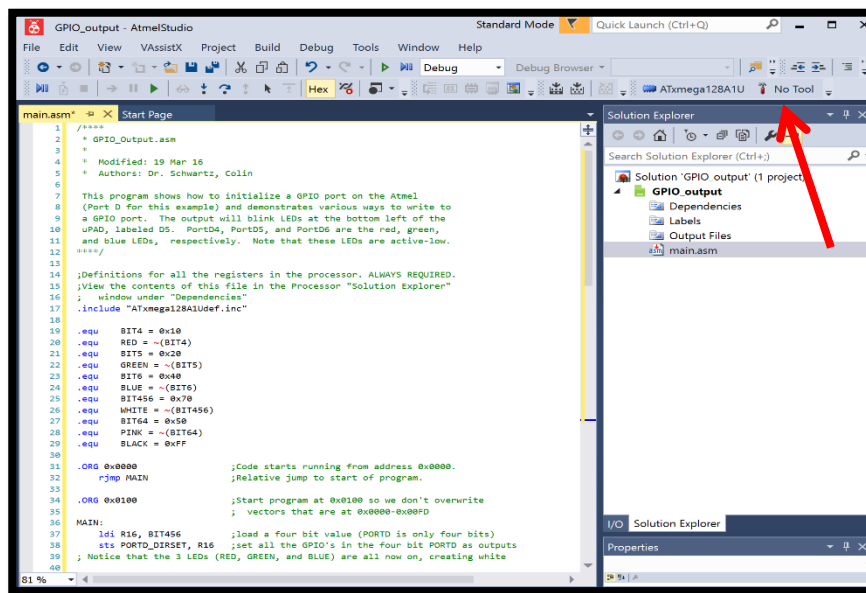
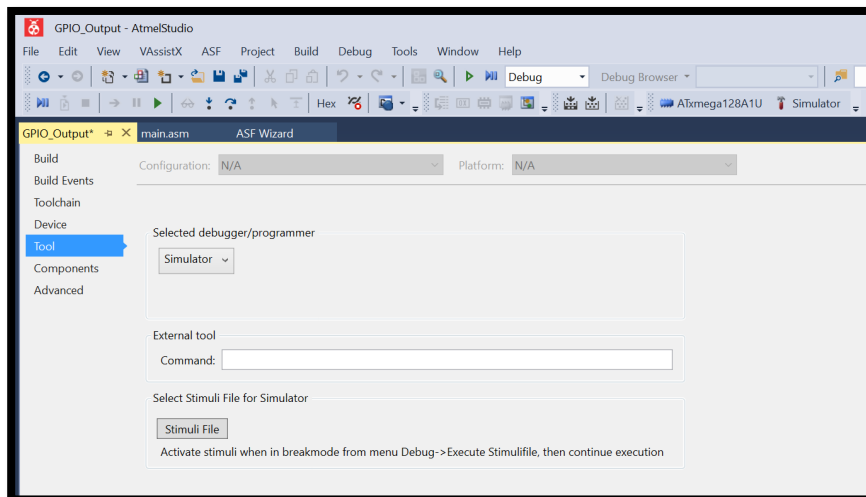

Figure 5: Target selector icon
Figure 6: Project *Tool* window
- To perform a simulation of the program, we must first select the simulator debugging tool. Click the target selector icon (listed *No Tool* by default), as pointed to by the red arrow in *Figure 5*. When you select this icon, the project *Tool* window shown in *Figure 6* will appear. (Alternatively, the project *Tool* window can be opened by navigating to **Project** \rightarrow **<Project_Name> Properties**, and then selecting the *Tool* option.) Under *Selected debugger/programmer*, use the dropdown menu to select *Simulator*. The target selector icon should now display *Simulator* (as also shown in *Figure 6*). Finalize these changes by saving the project (**File** \rightarrow **Save All**), and then close the project properties window.